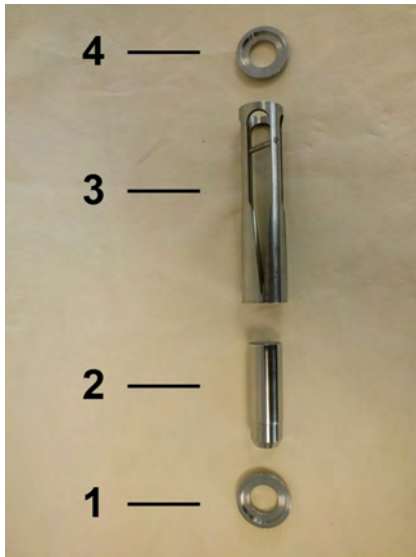

Fig. 47: Inner parts DWM/A
- 10.** ▶ The inner parts of the flow monitor consist of the centering disc (inlet) (Fig. 47/1), float (Fig. 47/2), slot nozzle (Fig. 47/3) and centering disc (outlet) (Fig. 47/4).